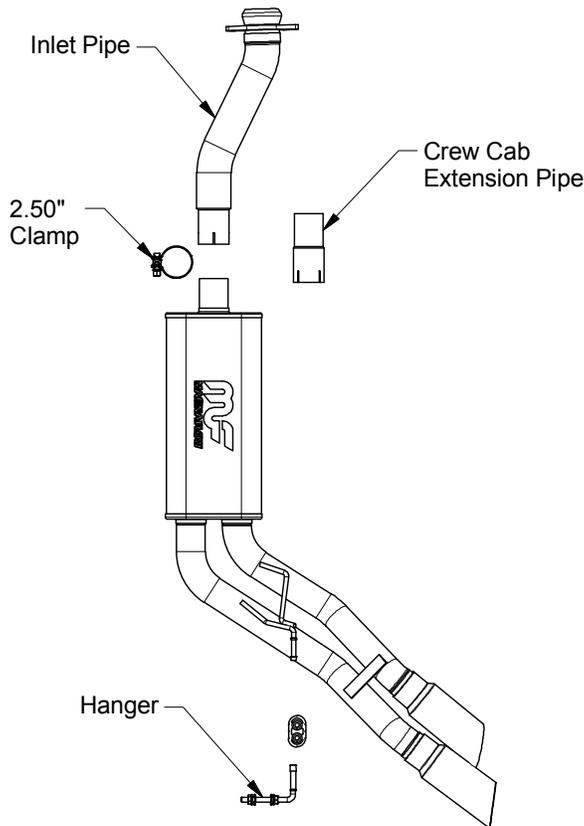

Fig 1.
Step 2: Install the new inlet pipe using the OEM fasteners. If you have a Crew Cab truck install the Extension Pipe using the supplied 2.50" Clamp. Install the threaded hanger and rubber insulator as shown in Fig 1, then Install the Muffler Assembly fitting the welded hangers into the rubber insulator and fasten it to the inlet pipe using the supplied 2.50" clamp. Leave all clamps and fasteners loose for final adjustment of the complete system. .